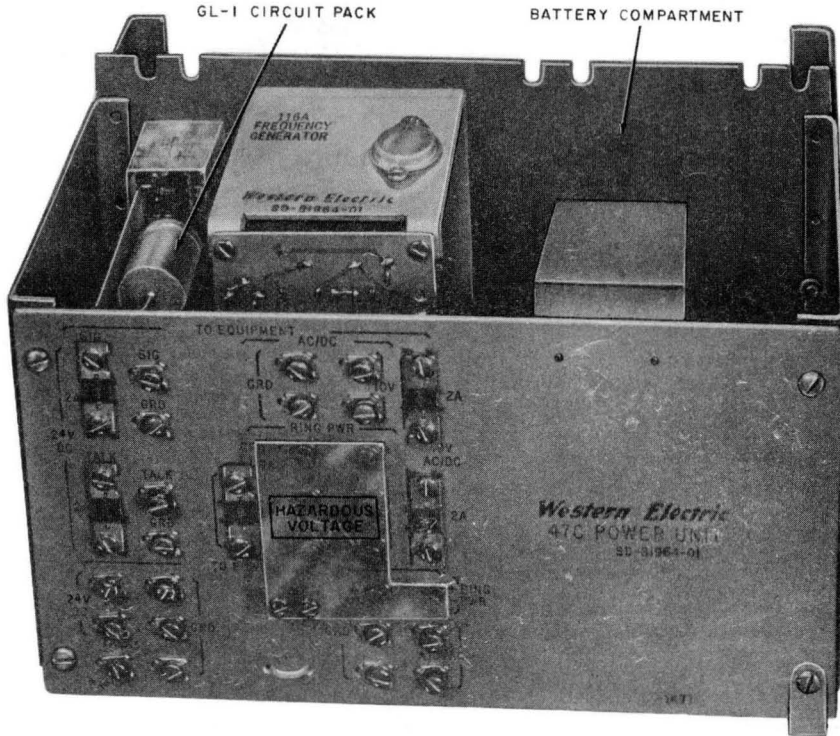

Fig. 1—47C Power Unit
1.01 The 47C power unit (Fig. 1) provides emergency power to maintain talk and signal voltages, lamp voltages, and ringing voltage in key telephone systems during commercial power failures.